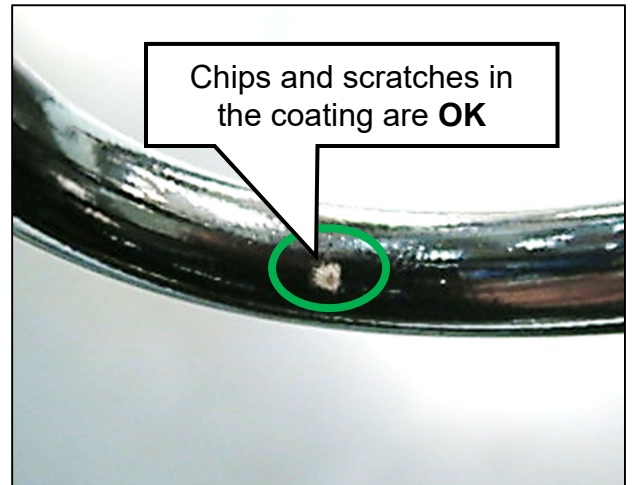

Figure 4
- Chips or scratches in the coating may be present from part handling. These are considered OK. (Figure 4)